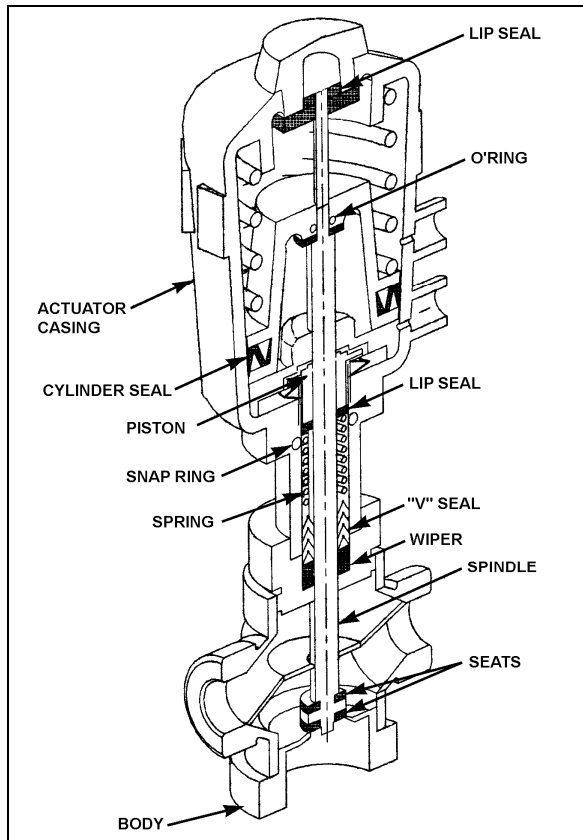

FIGURE 44: PNEUMATIC WATER VALVE 22330
2. The water valve need not be removed from the line. Unscrew nipple, the actuator casing, tube, spindle and closure member can be removed (Fig. 44).
2. Tighten the nipple in place in the body cavity as per figure 44. Fasten pilot solenoid valve to the pneumatic water valve. Reconnect air supply pressure and electrical current to the pilot solenoid valve.